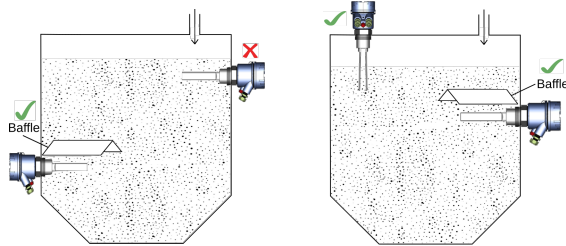

Figure 3: Correct Side Mounting
- For side-mounting, provide a baffle to prevent the application material from falling on the fork. Please refer to Figure 3.